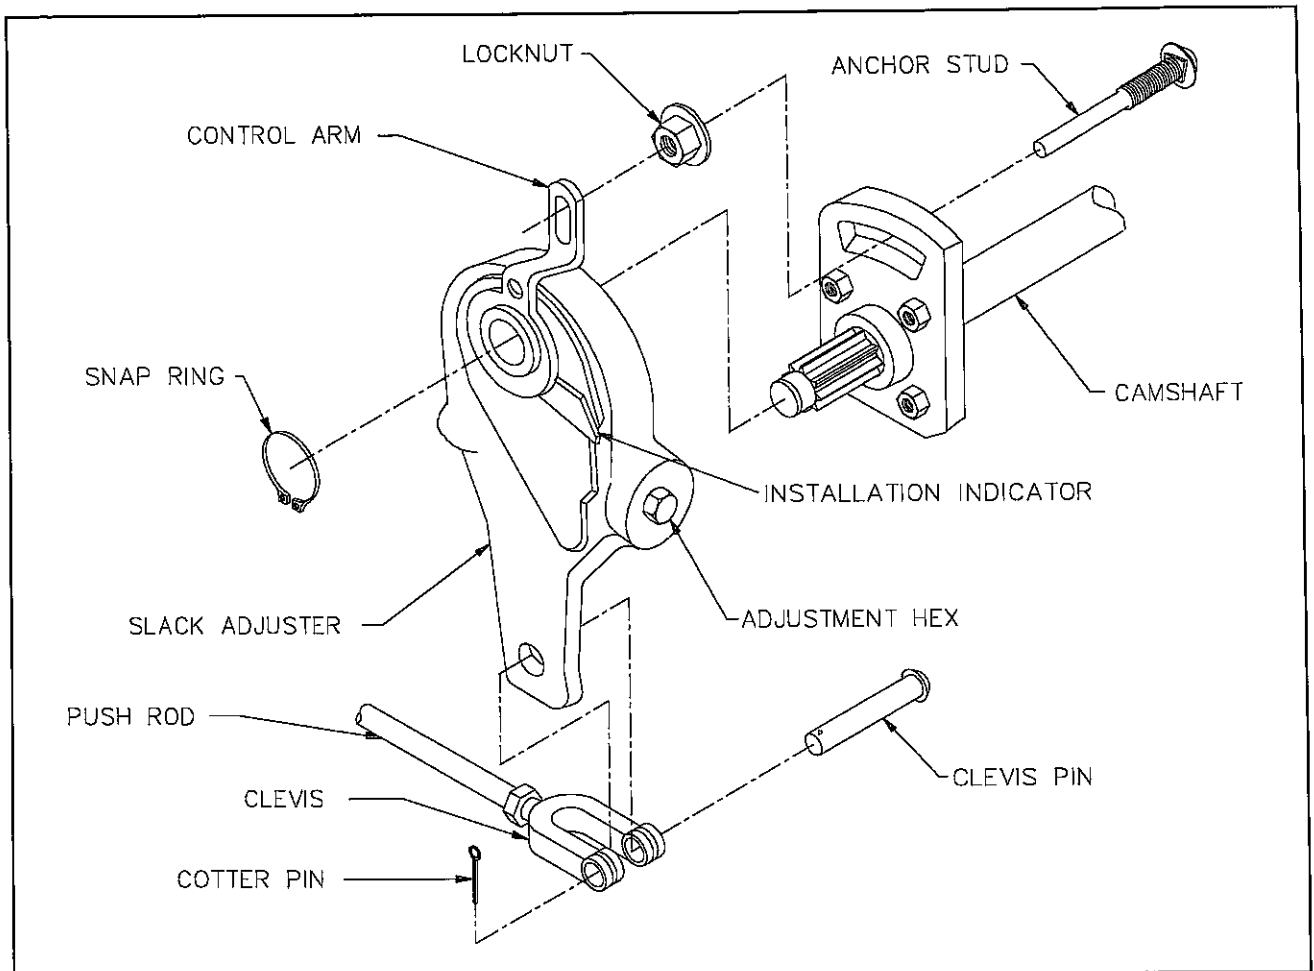

Figure 4-11 Slack Adjuster (Haldex)
4. Disconnect the slack adjuster from the connecting rod by removing the clevis pin (See Figure 4-11).
3. Remount the brake unit on the axle brackets and reconnect the air service hoses and the slack adjuster connecting rod (See Figure 4-11).
a. Operational Check (see Figure 4-11)
c. **Replacing Haldex Slack Adjuster** (See Figure 4-11)